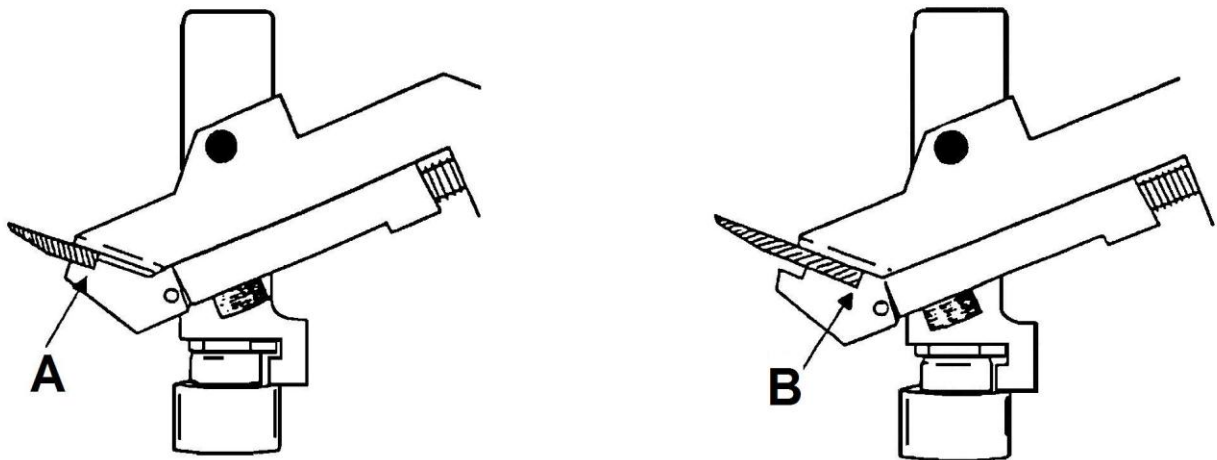

Figure 11
8.4.4 Clamping The Blade (See Figure 11)